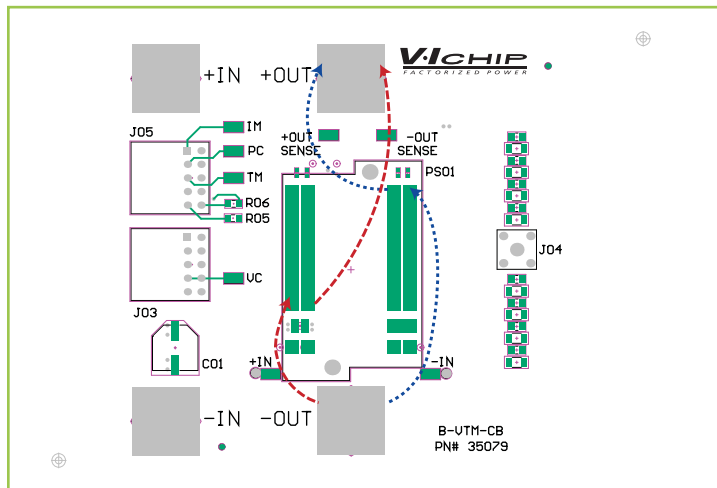

Figure 22 – Equal current path
- The total current path length from any point on the  $V_{+OUT}$  J-leads to the corresponding point on the  $V_{-OUT}$  J-leads should be equal (see Figure 22).